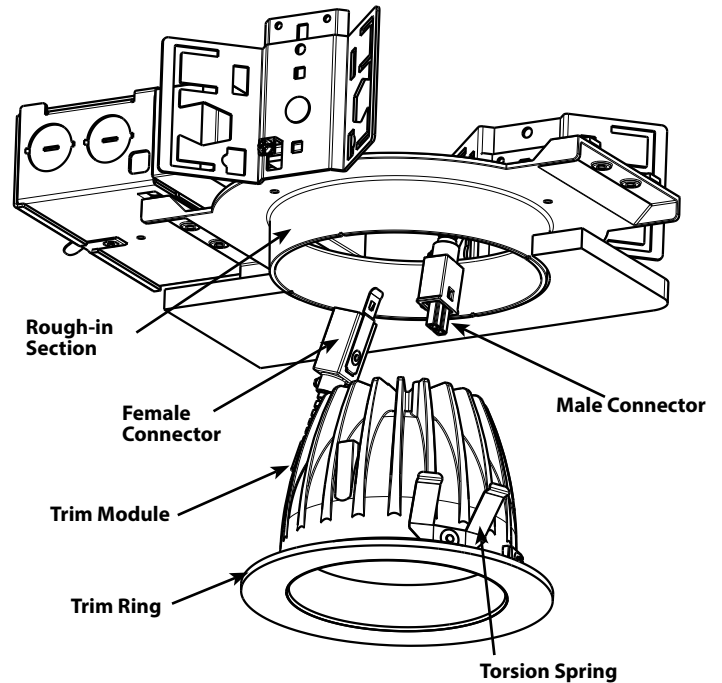

Fig: 3
1. Pull **Female Connector** conduit through frame opening. Raise **Trim Module** towards opening and connect to **Male Connector** conduit as shown in Fig. 3